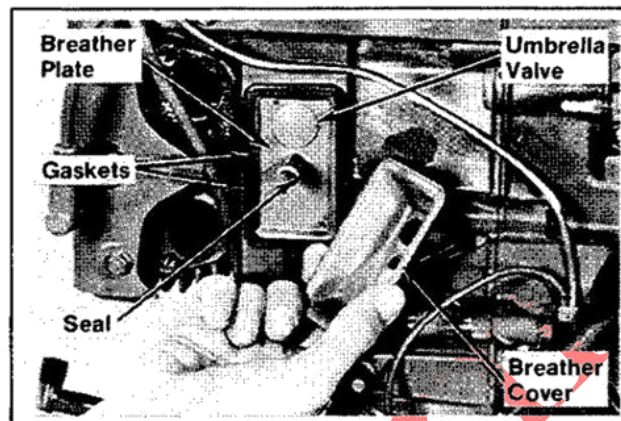

Figure 9-12. Removing Breather Components.
2. Remove the seal, breather plate, and gasket. Refer to Figure 9-12.